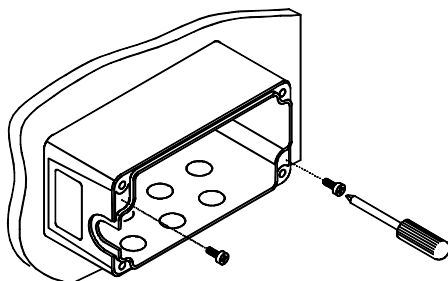

Figure 6 - Mounting Junction Box
- 2) Align the junction box and insert the two self-threading screws with their washers and screw them into the panel until tight (see Figure 6).